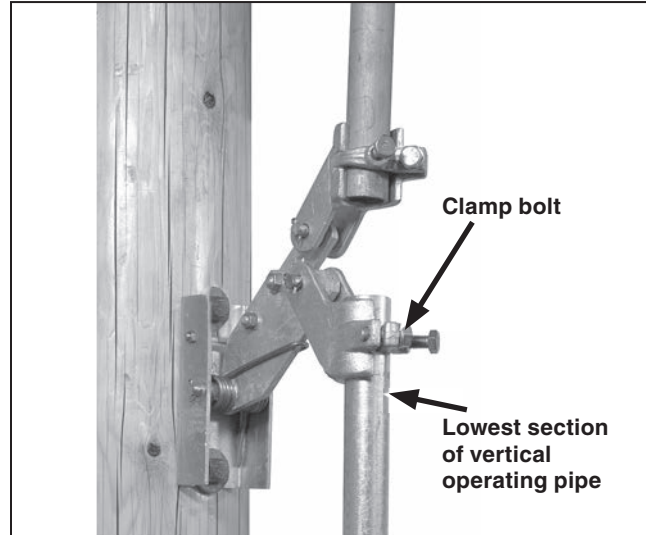

Figure 16. Installing the lowest operating pipe section into the rod guide (or interphase drive lever) coupling.
STEP 15. Insert the upper end of this pipe section in the lowest rod guide or—if only one vertical operating-pipe section is used—the interphase drive lever coupling and, while holding the operating handle at a point approximately 20 degrees from the **Closed** position, torque the rod guide (or interphase drive lever) coupling clamp bolt. See Figure 16.